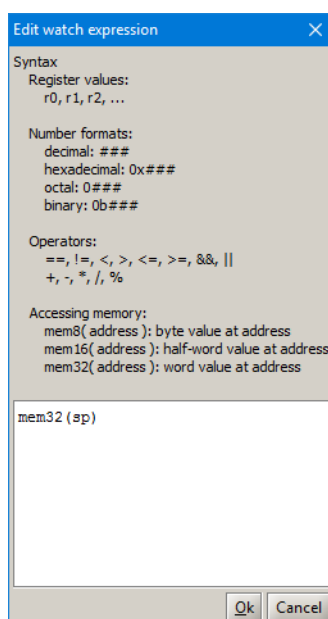

Figure 44. The Edit Watch Expression window.
3. The *Edit Watch Expression* window will appear, as shown in Figure 44. The desired watch expression can then be entered, using the syntax indicated in the window. In the figure, the expression `mem32(sp)` is entered, which will display the value of the data word at the current stack pointer address.